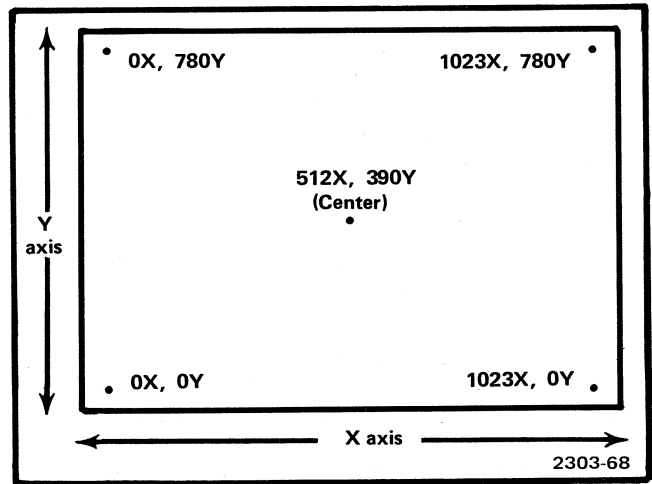

Fig. 1-7. Basic address positions on the display screen.
**Receiving**—Alpha Mode causes alphanumeric characters to be interpreted as APL (4015 and 4015-1) or ASCII writing characters in accordance with program or keyboard switch selection. Alphanumeric characters are written as received and control characters are executed as received. The Terminal goes into a reduced intensity status (Hold) after approximately 90 seconds of inactivity and returns to View status upon keyboard entry or upon receipt of data from the computer. Graph mode causes received data to be interpreted as specific addresses for the X and Y registers within the Terminal, resulting in moving the display unit beam to specific positions; the basic address positions are shown in Fig. 1-7. Control characters are executed as received.